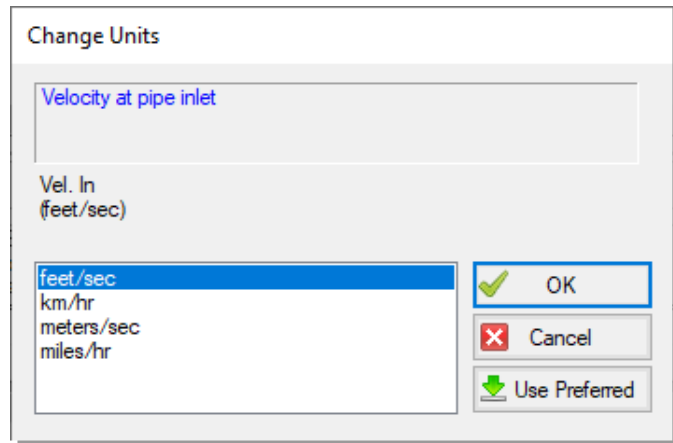

Figure 2.17 The Change Units window is opened from the Output window tables by double-clicking the column header
- **Lastly, double-click the column header** for the “Vel. In” parameter in the Output window in the Pipes table. This will open a window in which you can change the units once again if you prefer (see Figure 2.17). These changes are extended to the Output Control parameter data you have previously set.